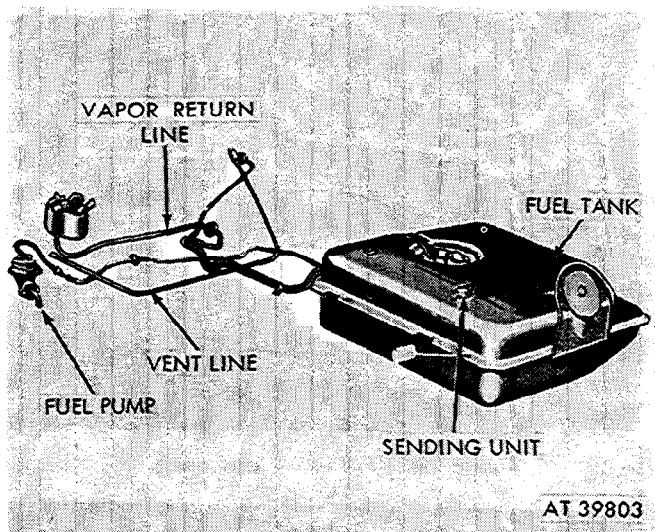

Figure 2-81. Fuel and vent lines on M151A2, M825, and M718A1 vehicles.
(2) On M151A2 series vehicles the mechanical fuel pump (Fig. 2-81) is mounted to the right side of the engine. This pump is a single action unit with a lever actuated diaphragm run off the camshaft lobe. Fuel leaving the pump maintains a constant pressure of from 4 to 6 psi. Fuel from the pump goes through the in-line filter (Fig. 1-82) before being used by the carburetor.